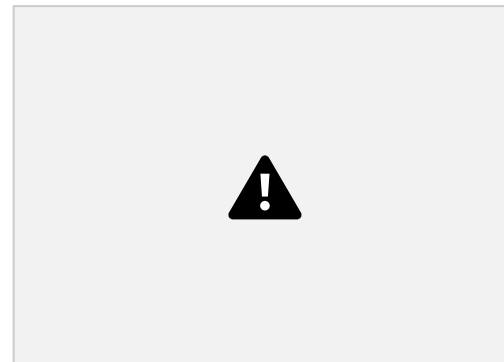

Fig. 1
1. Connect hoses and tool to be used. Attach the supplied 1 1/2" hose to the connector on the back of the machine (Figure 1).